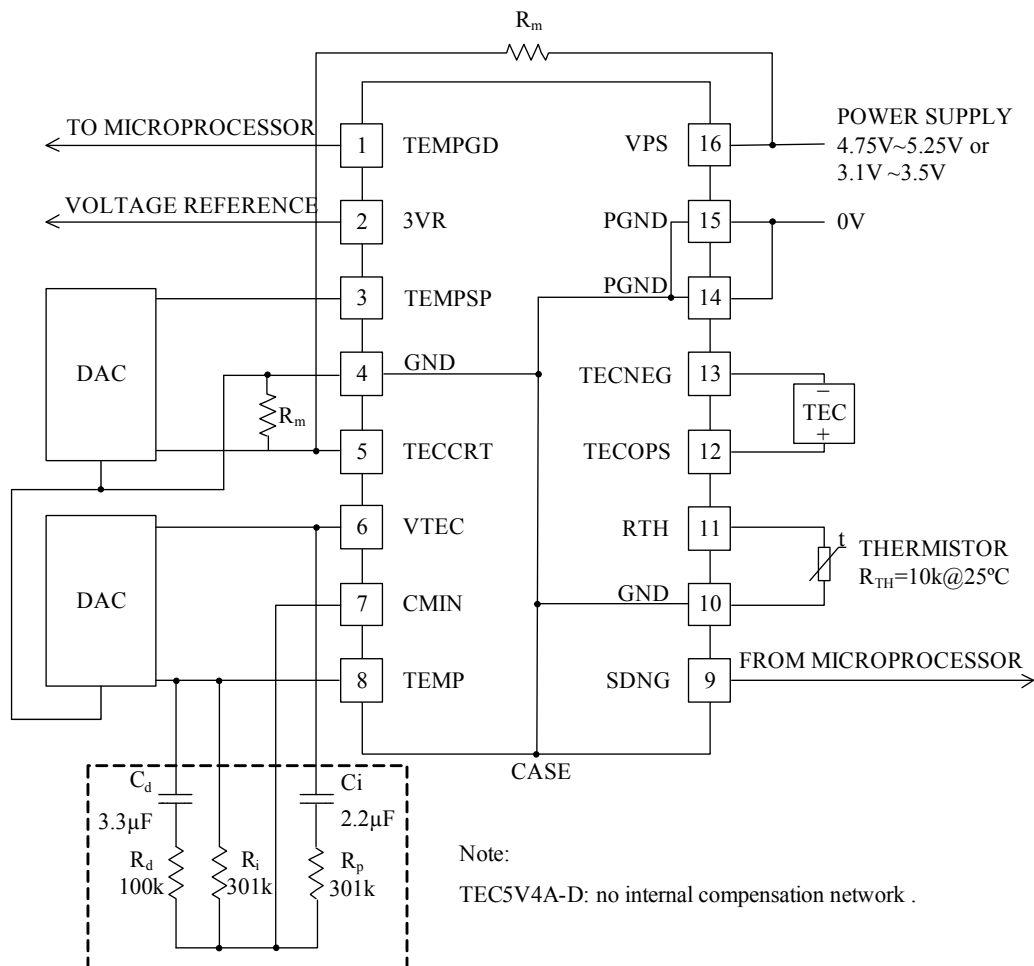

Figure 4. TEC controller connections
TEC controller connections are shown in Figure 4.
**Note:** This TEC controller doesn’t come with an internal compensation network and we don’t recommend using internal compensation network either. The compensation network is made of 5 components: 3 resistors and 2 capacitors and the values of the components in the network are the default values shown in Figure 4. Implementing the network externally is highly recommended since it can be modified for driving different thermal load and/or the thermal load characteristics is not certain or fixed at the early design stage.